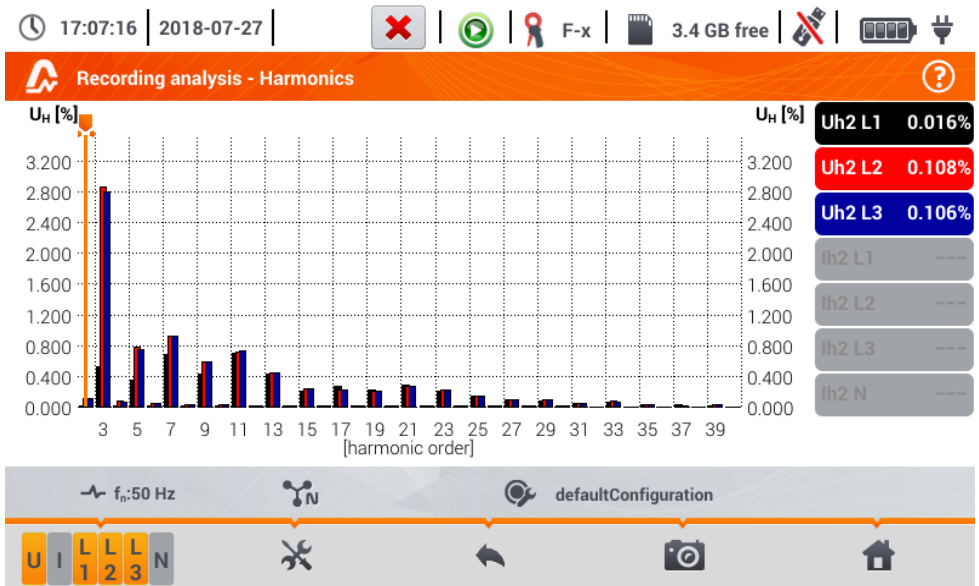

Fig. 5.23. Live mode - harmonics - bar graph
If in **section 5.8** step ③ the  icon has been selected, the screen shown in Fig. 5.23 will appear. The workspace consists of a graph, the labels menu and function icons menu. This screen allows you to view the harmonics of voltages and currents, angles between the current and voltage harmonics,  $\cos\phi$  factors of these currents and THD factors. Harmonics are displayed graphically in a bar graph (default) or in a table.